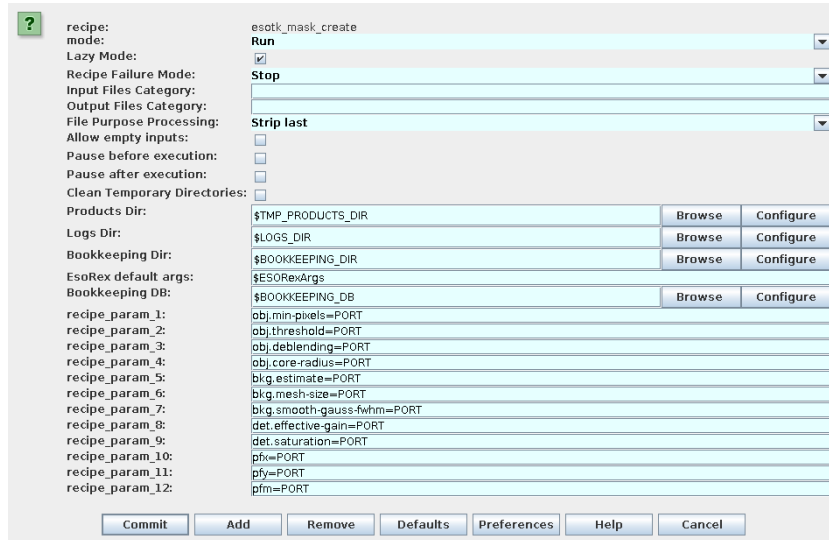

Figure 8.1: Example window for modifying fringe mask creation parameters.
4. A user may double-click on the actor that runs a recipe; these actors share the name of the recipe they execute and appear to have a cylinder with a thick circular arrow on them. A window will appear that enables a user to change that actor's behaviour, including parameter values (see Figure 8.1). This method of changing recipe parameters is *not* recommended. In the actors involved in the fringe correction workflow, all recipe parameters have a value set to `PORT`; this tells the actor to use specially crafted values from an input port. If a non-`PORT` value is specified, the actor will ignore any changes to parameters made using the three methods listed above.